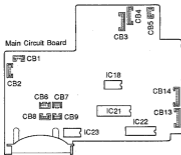

Fig.9
9. Remove connectors CB6, 7, 8 and 9 (Fig. 9) from the Main Circuit Board and also remove 5 binding ties from both sides of the Chassis.